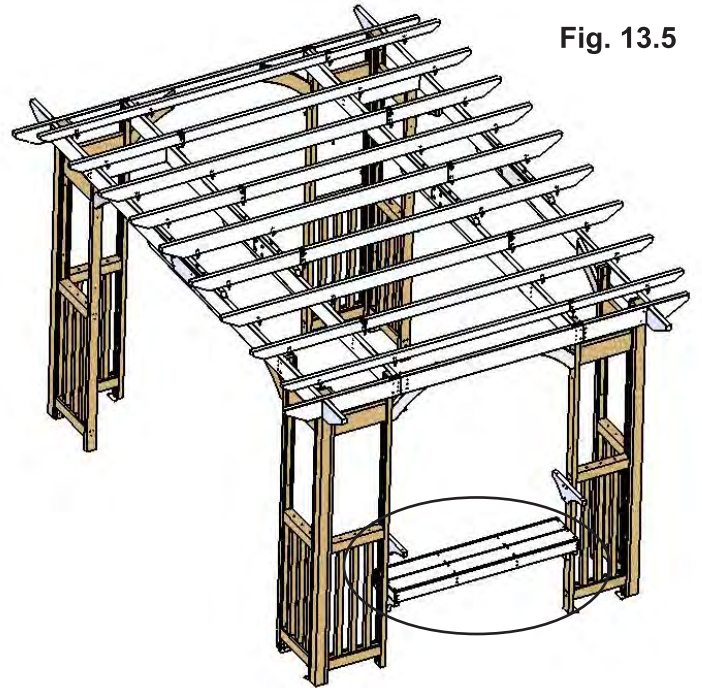

Fig. 13.5
E: Place two (503) Shelf Tops in between (501) Front Back Shelves so the ends are flush with the outside of each (502) Shelf Side Joist then attach to each (500) Shelf Joist and (502) Shelf Side Joist with eight #8 x 1-1/2" Wood Screws per board. (fig. 13.5 and 13.6)